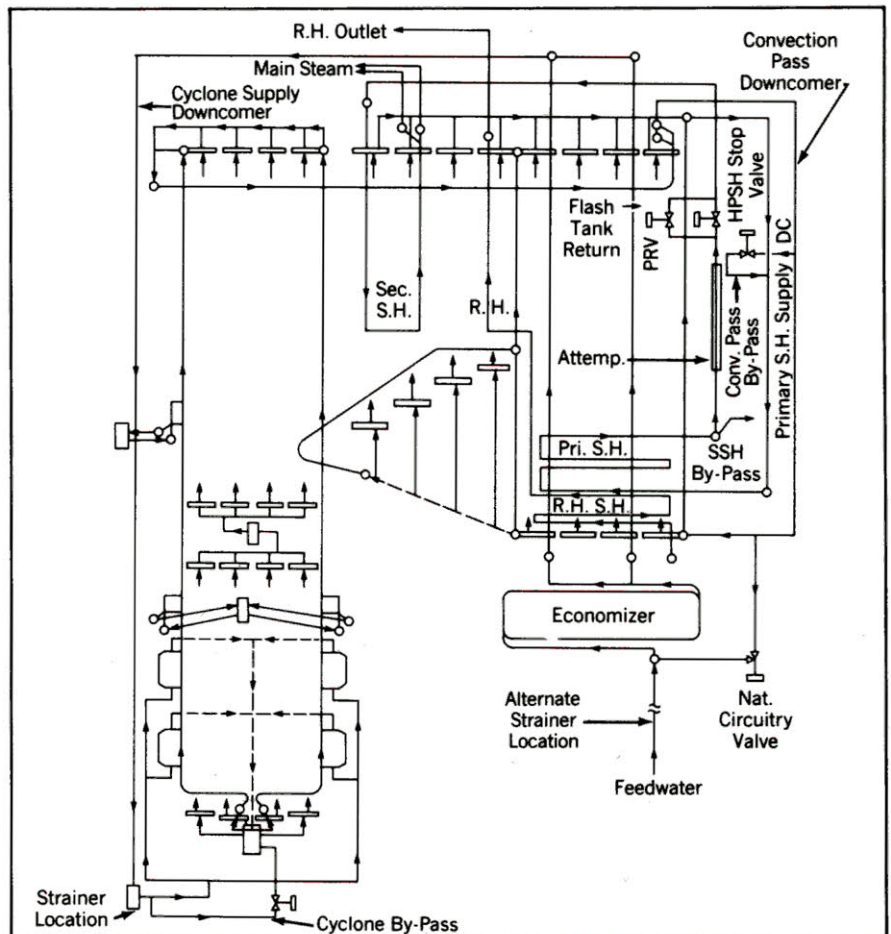

Figure 2 Boiler Circuitry of a Cyclone Unit.
1. In all cyclone fired boilers, in the downcomer bottle immediately preceding the cyclone circuits. See Figure 2.
An alternative for replacing the existing downcomer strainer is to install a strainer at the economizer inlet. If the alternate location is used, the failed strainer must be removed from the downcomer and all the debris accounted for. See Figure 2 for location.